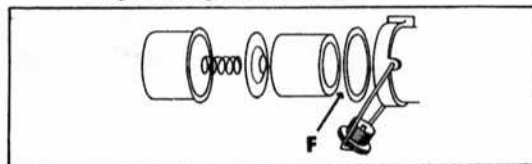

FIGURE 4
13. After inspection or cleaning of sediment bowl, assemble filter as shown in Figure 4. Make certain that bowl gasket (F) is properly seated.